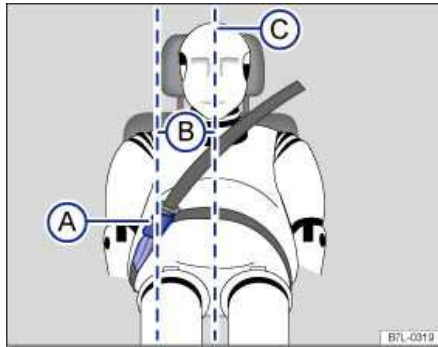

Fig. 71 Positioning of the safety belt extender.
Key to fig. 71:
- Never use a safety belt extender if the distance (B) between the front edge of the safety belt extender buckle (A) and the centerline of the person using the safety belt extender ⇒ fig. 71 (C) is less than 6 inches (15 cm).